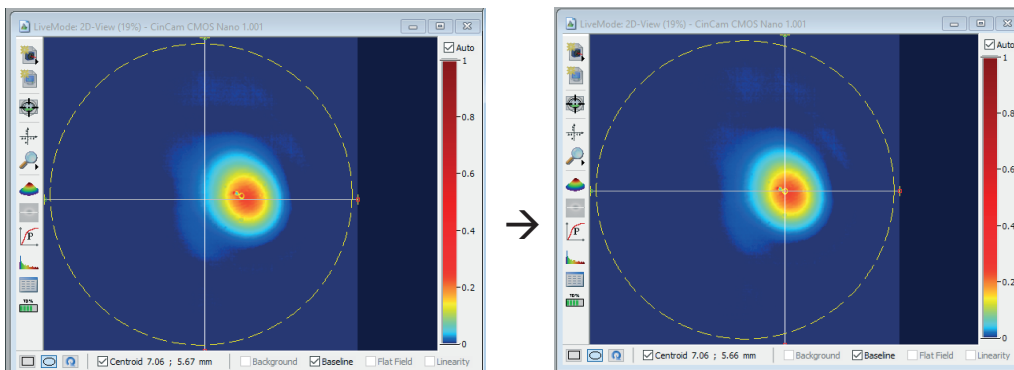

Figure 17. Placing crosshair over the center.
7. Set current beam position as a reference point by placing crosshair over the center (fig.17).